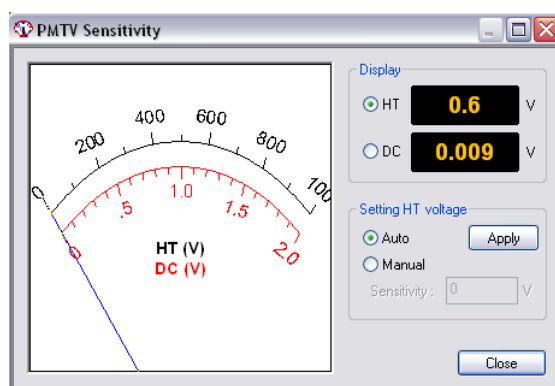

Figure 3.9 [PMTV Sensitivity] dialog box
[Display]	Changes the meter indication (displayed on the right side of Figure 3.9) at the right of [HT] or [DC] with an option button.
**Note (1):** Closing the shutters zeroes the HT voltage. Confirm this in the [CD Detector...] dialog box (Figure. 3.9) if necessary.
**Note (2):** When the spectrometer is turned ON, the shutter automatically opens. Check the front LED to see if the shutter is ON/OFF in this case.